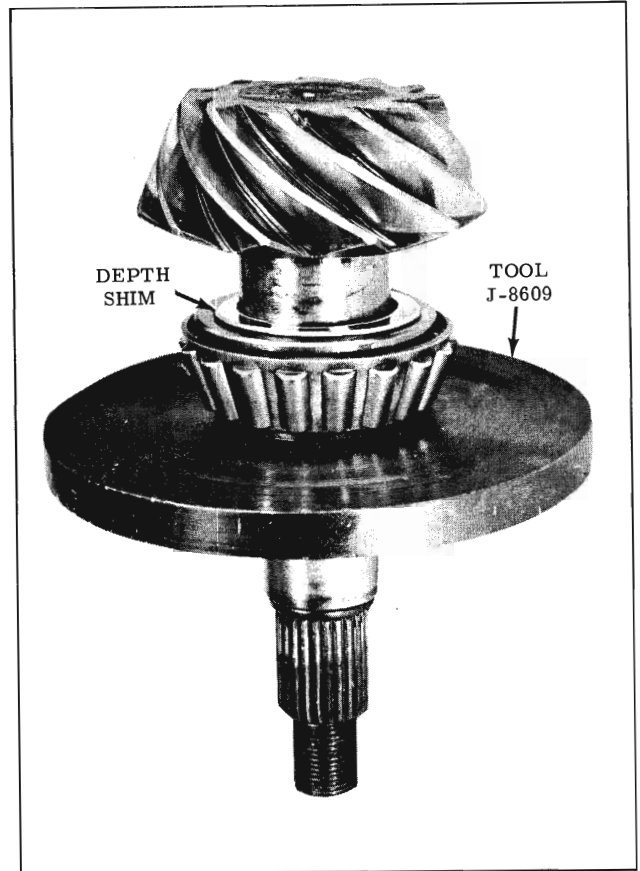

Fig. 6-125 Installing Pinion Bearing
2. Install bearing onto pinion using Tool J-8609. (Fig. 6-125)